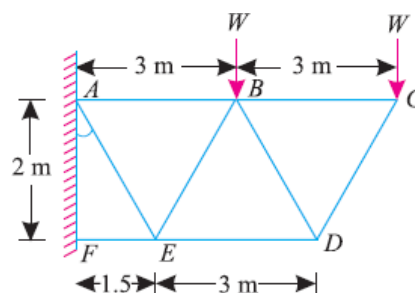

fig.30
4. A cantilever truss is loaded as shown in Fig.30. Find the value W, which would produce the force of magnitude 15 kN in the member AB. [L1] [6M]